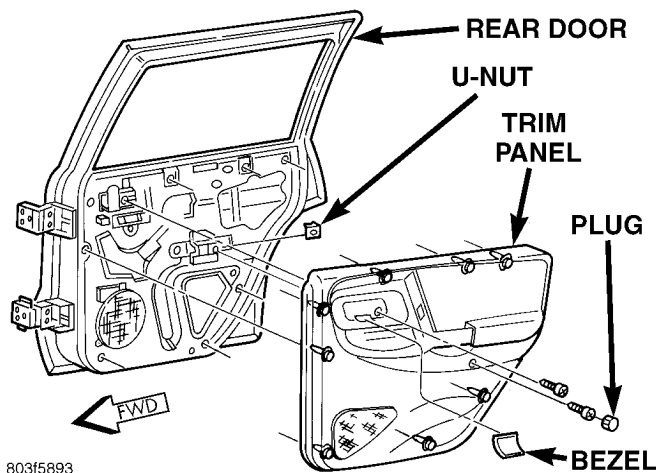

Fig. 13 Rear Door Trim Panel Remove/Install
(1) Disconnect and isolate the battery negative cable.
(2) Remove the bezel near the inside door latch release handle by inserting a straight-bladed screwdriver in the notched end of the bezel and prying gently upwards.
(3) Remove the screw located beneath the bezel that secures the rear door trim panel to the inner door panel (Fig. 13).